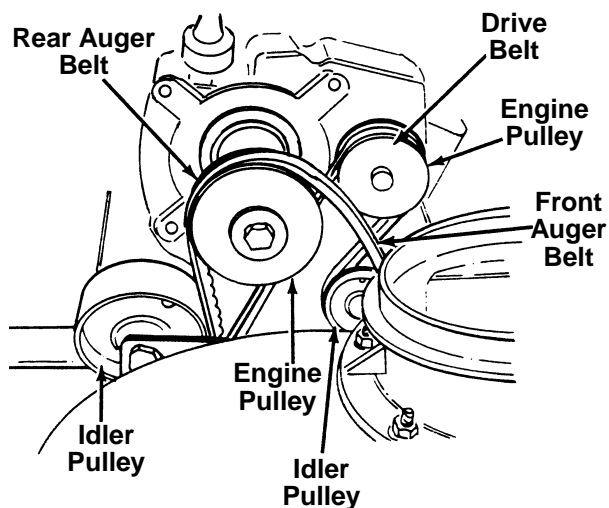

Figure 20
5. Roll the front and rear auger belts off the engine pulley. See figure 20.
2. Pull idler pulley up, and lift belt off engine pulley and friction wheel disc. See figure 20.